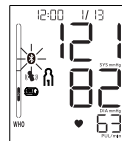

Figure 7-2
d. The monitor slowly releases air from the cuff and carries out the measurement. Lastly, the blood pressure and pulse rate will be calculated and displayed on the LCD screen (See Figure 7-2 ).